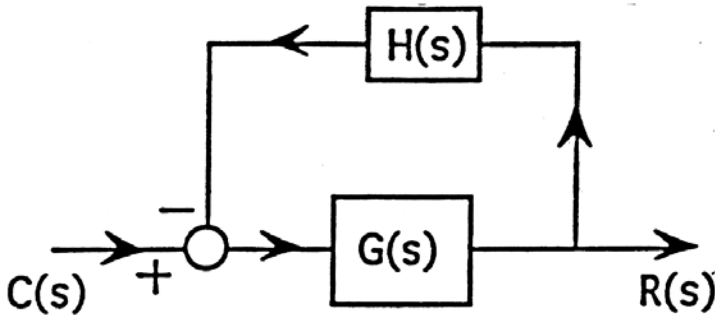

Figure 17
From Fig. 17 and (26) recall that